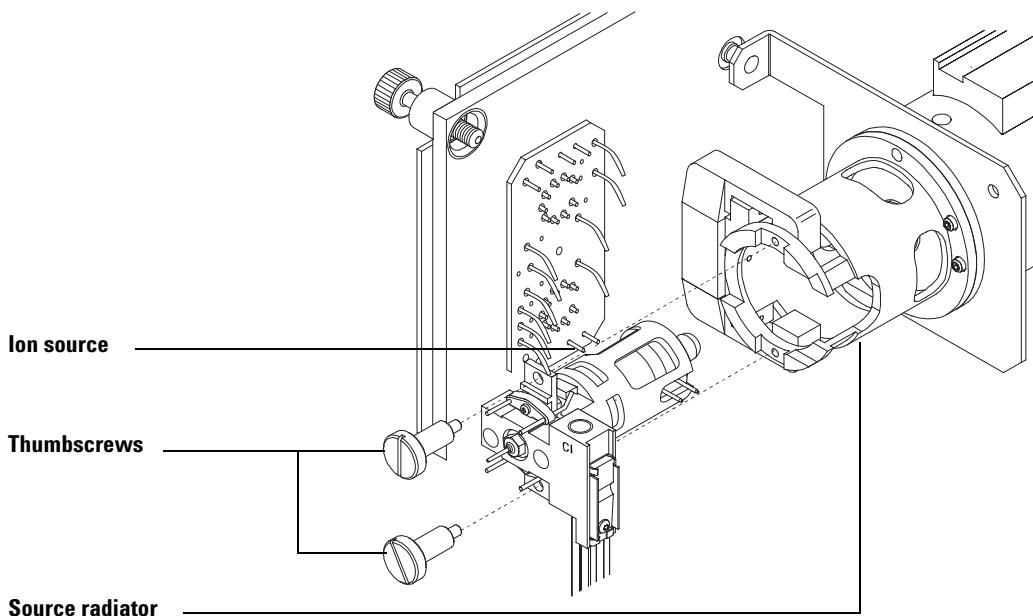

Figure 31 Installing the CI ion source
- 4 Install the thumbscrews (Figure 31).